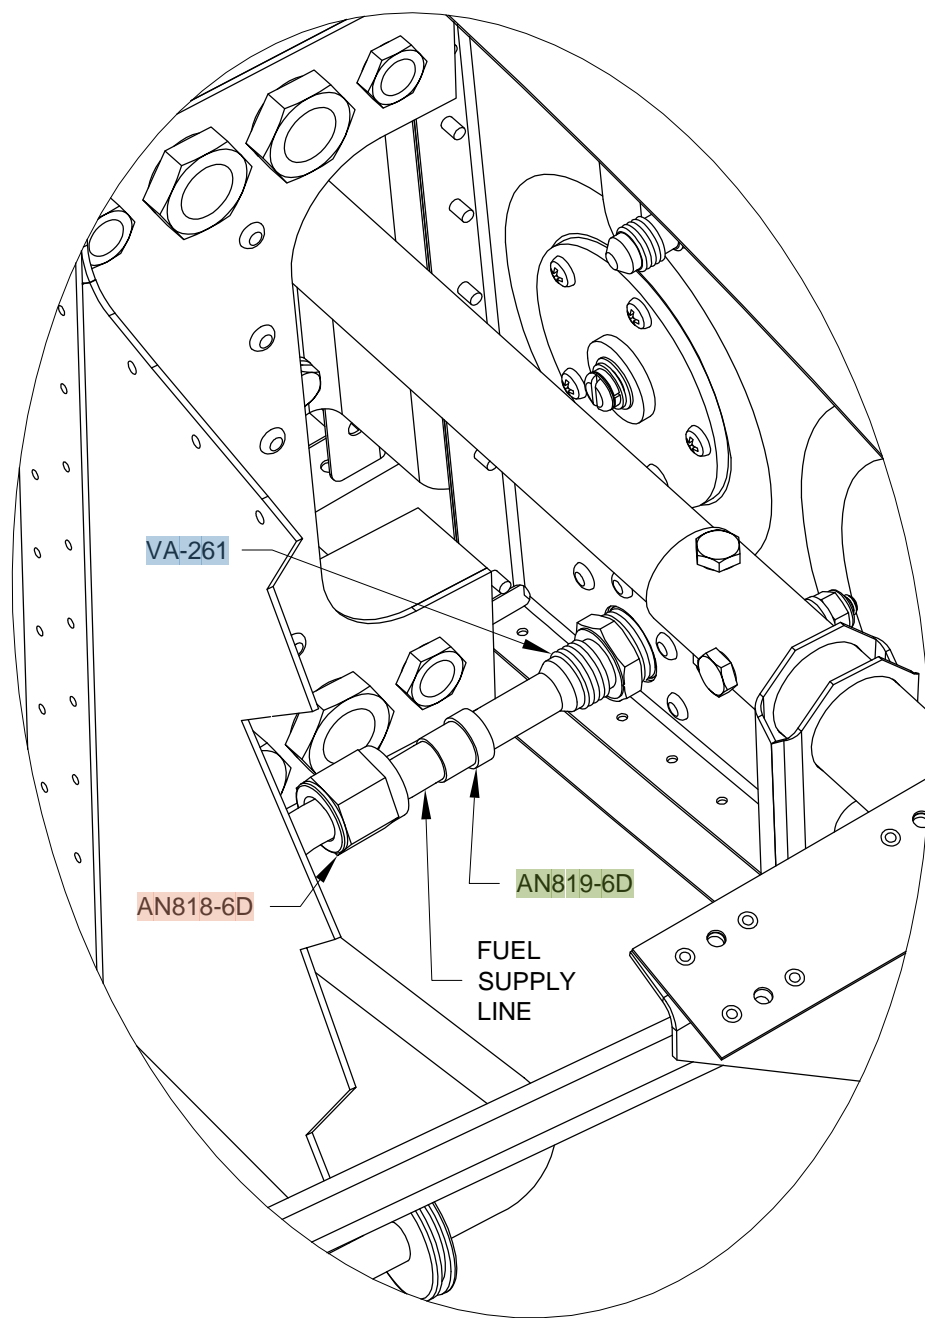

FIGURE 1: CONNECTING THE FUEL SUPPLY LINE
Step 9: Reinstall the F-1099A Upper Wing Root Fairing. Fifteen additional AN509-8R8 screws are required beyond those depicted on Page 44-9, Figure 1.